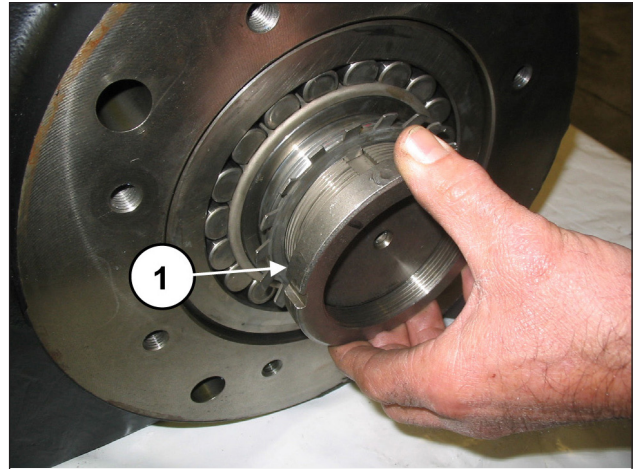
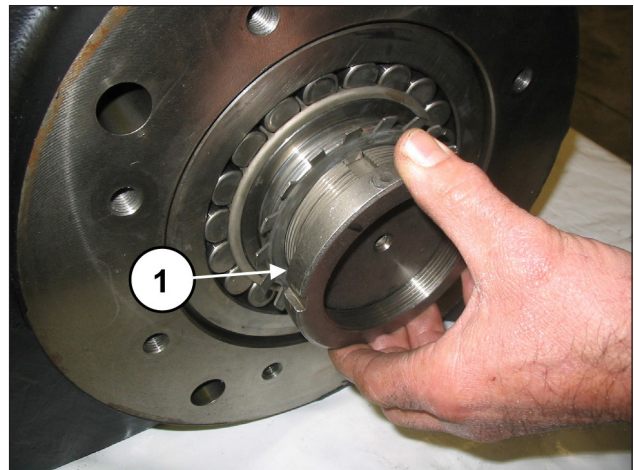
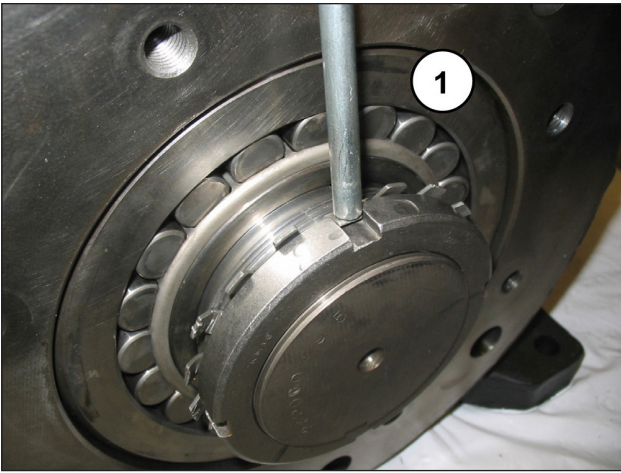

Fig. 53
Fig. 54
Fig. 55
Unscrew the ring nut, insert the safety washer (pos. ①, Fig. 53) and fully screw on the ring nut (pos. ①, Fig. 54), after which bend the washer's locking tab (pos. ①, Fig. 55).